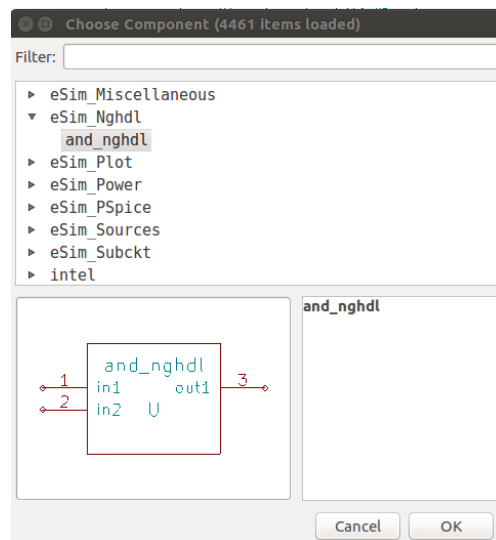
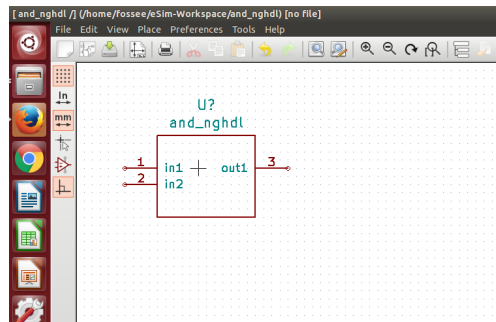

Figure 9.8: Locating the component in library
Figure 9.9: Placement of component on editor
3. Next step is to locate the component in `eSim_Nghdl` library as shown in Fig. 9.8 and place it on the schematic editor as shown in Fig. 9.9.